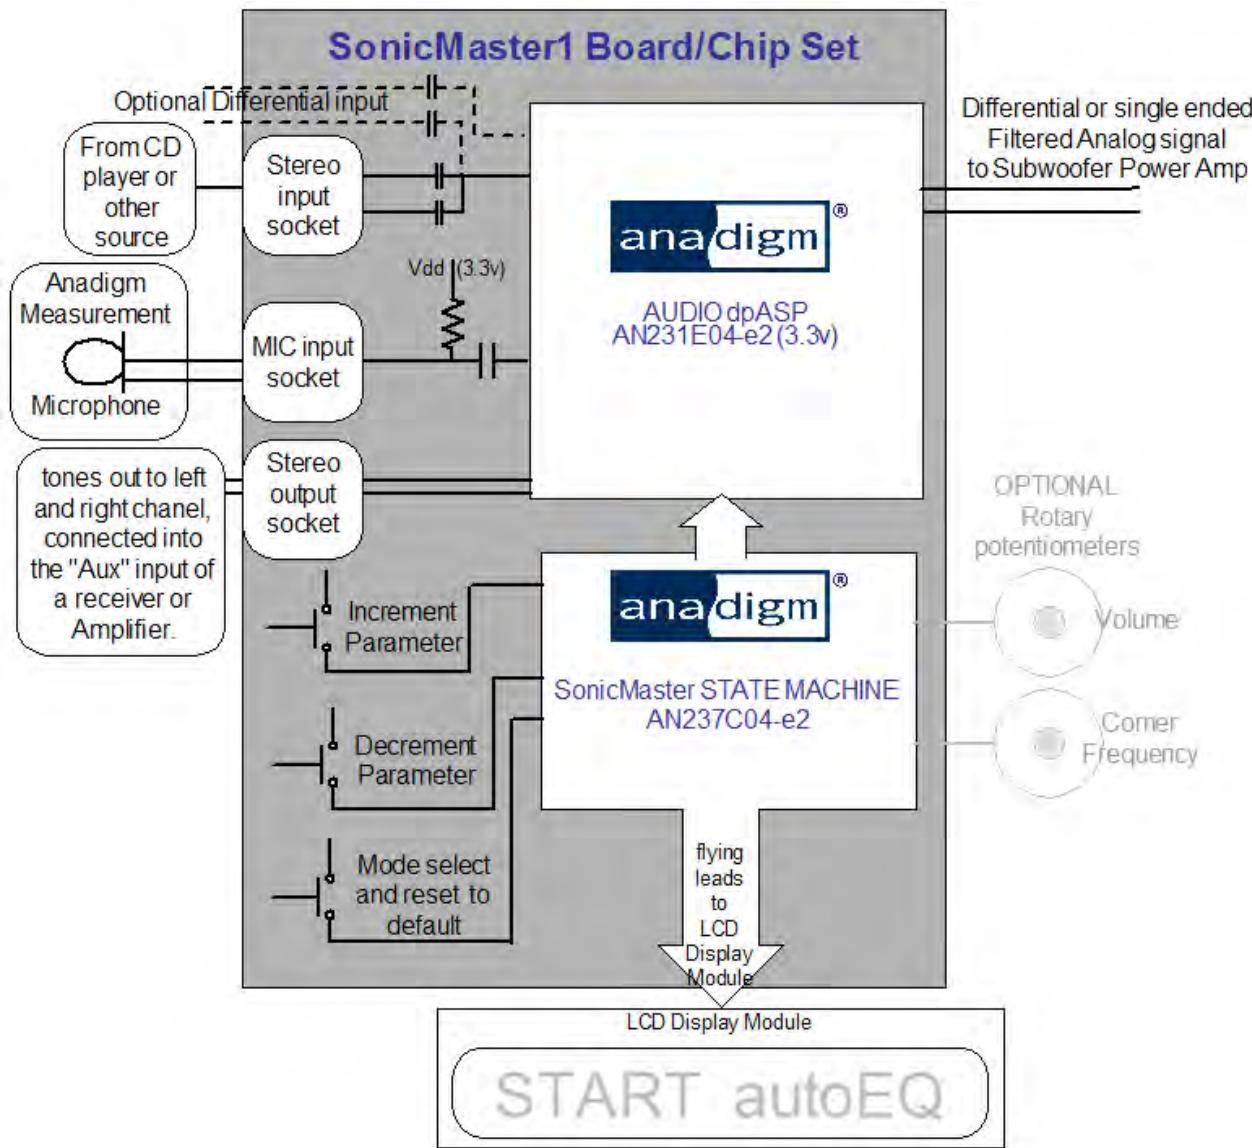

Figure 2.
- 7) After checking the subwoofer functionality as above, connect the rest of the system as shown in Figure 2 below. Then select the menu item Start AutoEQ and hit the “increment” button.